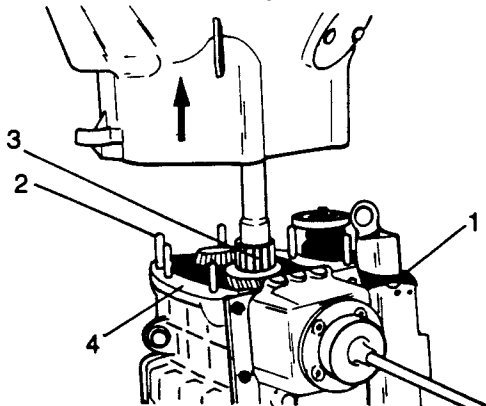

Fig H1.36
- (7) Refer to Fig H1.36. Position the complete gearbox unit (1) perpendicular with the clutch housing upwards.
- (8) Knock upwards with a plastic mallet the clutch housing until the casing together with the primary shaft bearing frees itself from the fixing studs (2).
- (9) The nucleus of gears plus the primary shaft gears (3) will remain perfectly housed in the gearbox housing.
- (10) Replace the gasket (4) if this shows signs of damaged and apply a film of Hermetical 600 on both faces.